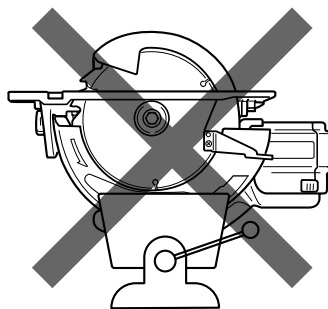

Fig. 7
- 14. Never attempt to saw with the circular saw held upside down in a vise.** This is extremely dangerous and can lead to serious accidents. (Fig. 7)